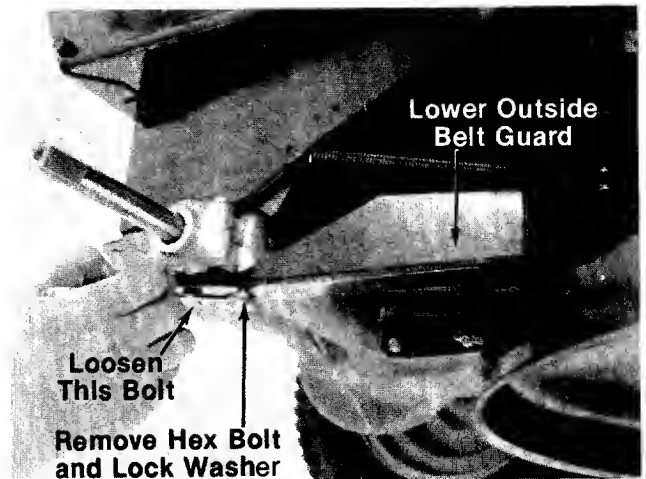

FIGURE 22.
4. Remove one hex bolt and lock washer at the front of upper engine belt guard. A 7/16" wrench is required. See figure 22.
5. Loosen (**Do Not** remove) the second bolt. See figure 22.